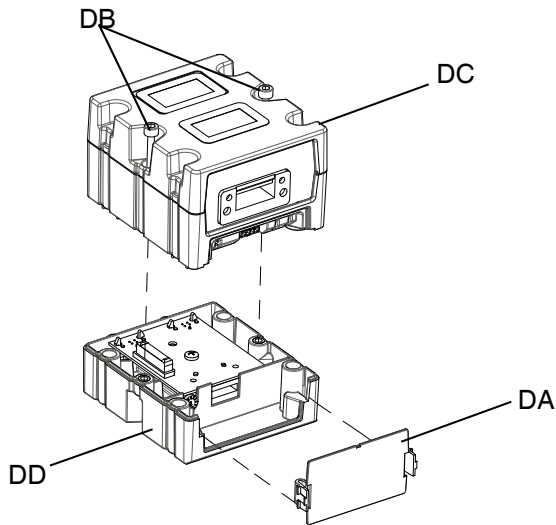

FIG. 65: Disassembling the CGM
5. Remove the access cover from the CGM (DA). Loosen the two screws (DB) and remove the CGM (DC) from the base (DD) as shown in FIG. 65.